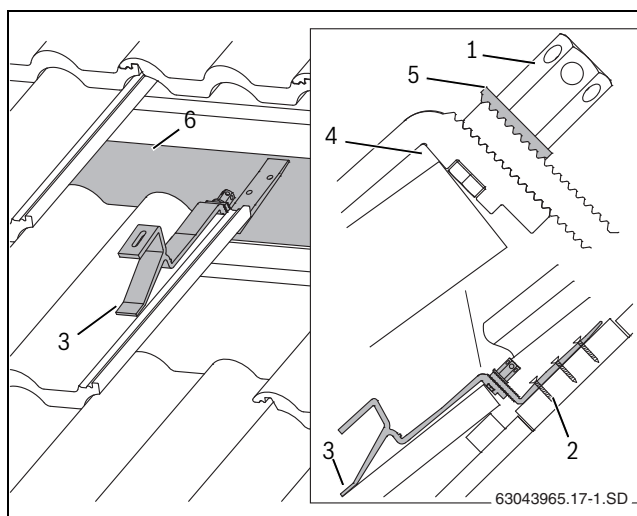

Fig. 14 Fixed roof hook (some tiles have been removed for a better view)
- Lay support in front in such a way that it will lie in a tile valley when subject to a load (Fig. 14, [3]).
The roof hook must have some looseness at the upper edge of the tile (Fig. 14, [2]). Adjust the top of the tile if necessary.
- Push the roof hook down until it comes to rest on the rafter or boards/planks (Fig. 14, [6]).
The serrated washer (Fig. 14, [5]) must grip the serrations on the lower part of the roof hook.
- Tighten the long hexagon nut (Fig. 14, [1]). To do so, insert the size 5 spanner in the hexagon nut and turn.
- Secure the lower part of the roof hook to the rafter in at least the first (Fig. 14, [2]) and second holes using suitable screws.